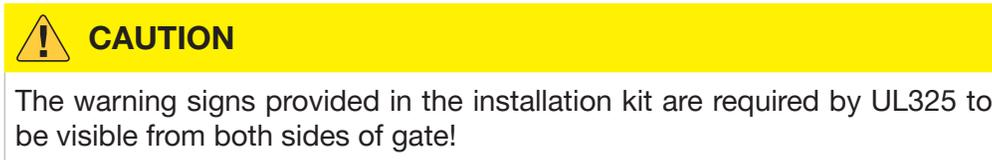

FIG. 9-1: Warning Sign
1. Place one warning sign (see Figure 9-1 below) on outside of gate, and place the other on the inside of gate in high visibility locations (eye level) to warn of entrapment dangers. If signs cannot be attached to gate, ensure they are visible to pedestrians and anyone operating the gate.